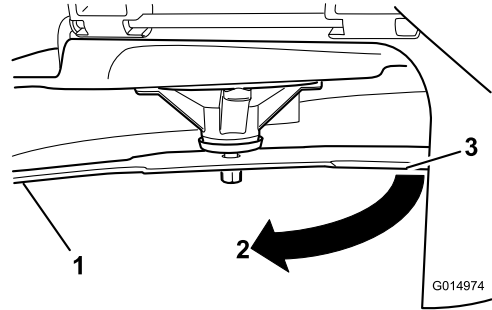

**Figure 110**
2. While wearing thickly padded gloves, or other adequate hand protection, slowly rotate the blade into a position that allows you to measure the distance between the cutting edge and the level surface the machine is on (Figure 110).